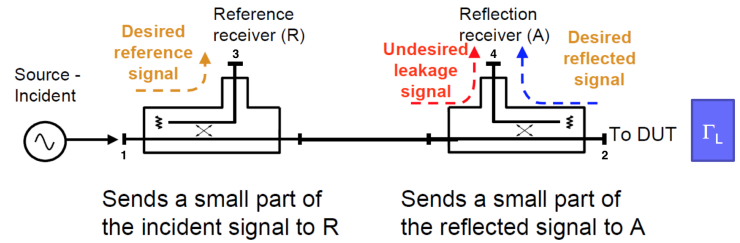

Figure 4: A reflectometer
The test frequency is generated by a variable frequency Carrier Wave (CW) source and its power level is set using a variable attenuator. The position of switch SW1 sets the direction in which the test signal passes through the DUT. Initially consider that SW1 is at position 1 so that the test signal is incident on the DUT at P1 which is appropriate for measuring S_{11} and S_{21} . **Note that DC1+splitter1 and DC2+splitter2 are, in fact, the circuit of Figure 4, each one, in which the left direct coupler is substituted with the splitter.**